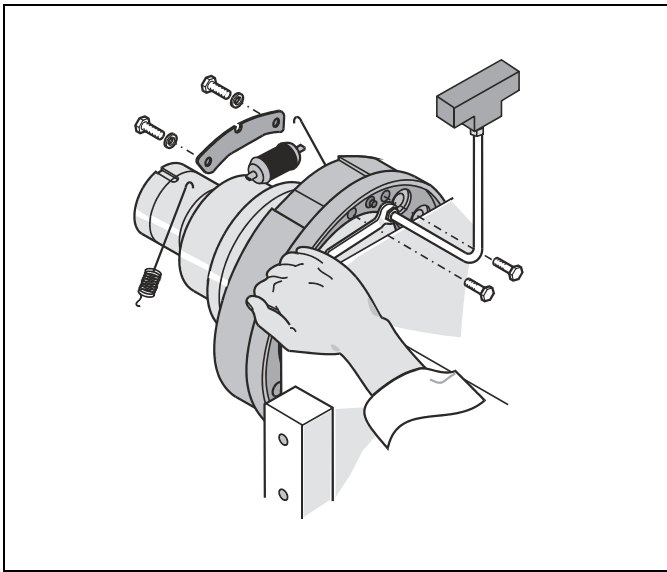

Figure 2-4 Wheel Cylinder Repair
6. Using a flare-nut wrench, disconnect the brake fluid inlet line from the wheel cylinder. Have shop rags handy to soak up any spilled fluid. (See Figure 2-4)